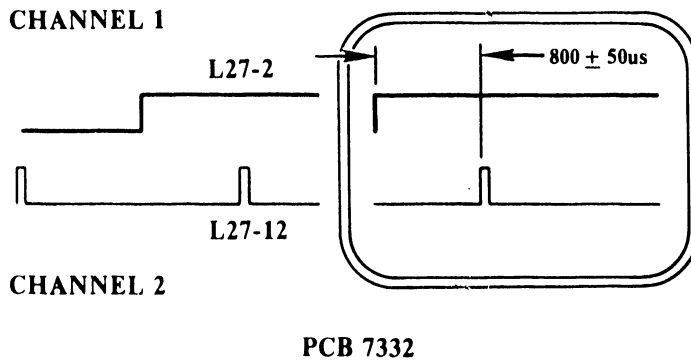

FIGURE 6-6 SCOPE PRESENTATION
- 4) Loosen mounting plate containing index hole (See Figure 6-1) and adjust for a 800 ± 50 usec between leading edges of pulses. (See Figure 6-6.)